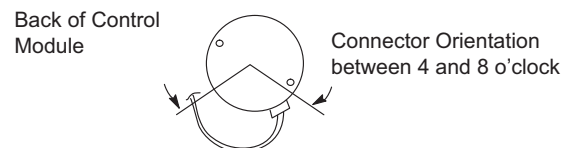

Figure 21. Drip Loop
- 5 - The electrical connectors of the motor should be facing down to form a drip loop (**Figure 21**). This will direct moisture away from the motor and its electric connections on the motor.